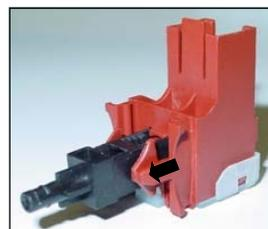
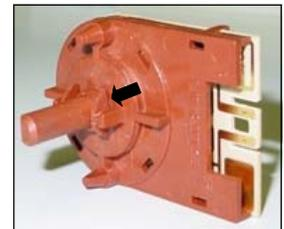

Fig. 4-4
Fig. 4-5
- On both Fig. 4-4 Switch and Fig. 4-5 Potentiometer you can see the positioning tabs.